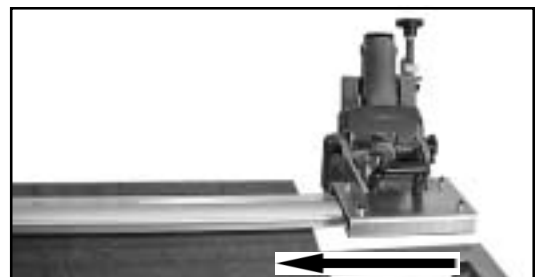

Figure 18
- a. Align the EdgeCrafter Carriage Assembly with end of the guide rail and carefully guide the carriage wheels onto the rail. The fit should be tight at first but once all four wheels are on the rail, movement should be smooth. (See figure 18)